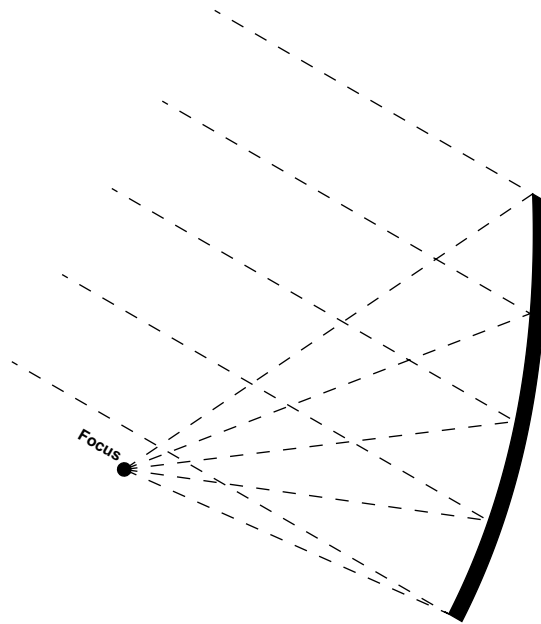

Figure 2. Offset Parabolic Dish Antenna Aimed at Satellite
2. An 18 inch DSS offset-fed dish at 10 GHz, with measured gain of 32.0 dB and efficiency of 63%. The spillover efficiency should be comparable, but with the offset dish pointing at a high elevation as shown in **Figure 2**, far less of the spillover is